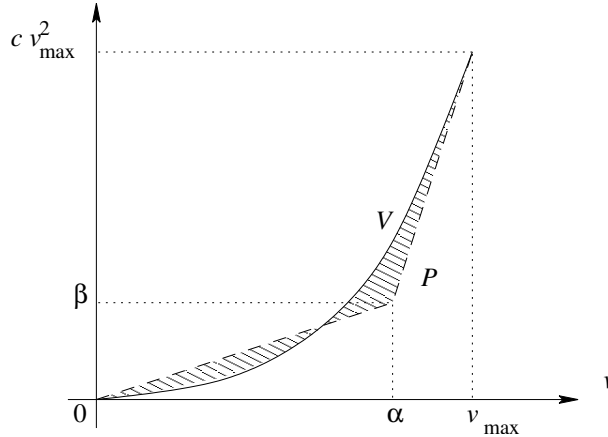

Figure 2: The quadratic function V and its PWA approximation P .
Step 2.2: Construct a piecewise affine (PWA) approximation P with 2 regions of the friction force curve $V : [0, v_{\text{max}}] \rightarrow \mathbb{R} : v \mapsto v^2$ as follows. We want a perfect match for $v = 0$ and $v = v_{\text{max}}$. This implies that we still have two degrees of freedom, i.e., the coordinates (α, β) of the middle edge point of the PWA curve (see Figure 2). Now determine α and β such that the *squared* area between V and P (i.e., the squared area corresponding the hashed region in Figure 2) is minimized, or equivalently, such that